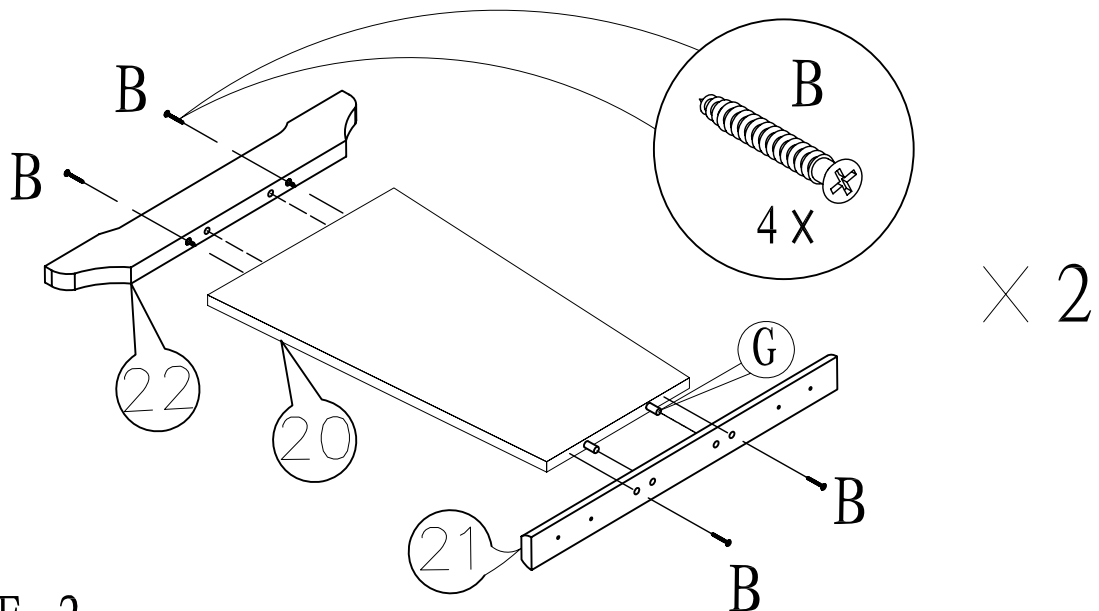

FIGURE 2
- 2.1 ATTACH LEG BASE #22 TO LEG #20 THROUGH FITTING DOWELS LOCATED ON LOWER END OF LEG #20 INTO HOLES LOCATED ON UPPER EDGE OF BASE #22 AS GUIDE, SECURE CONNECTION WITH (02) SCREWS(B) DRIVEN WITH PHILLIPS HEAD SCREW DRIVER (NOT ATTACHED). AS SHOWN IN FIGURE 2. REPEAT PROCEDURE FOR SECOND LEG #20.
- 2.2 ATTACH TABLE TOP SUPPORT #21 TO LEG #20 FITTING THE DOWELS LOCATED ON UPPER END OF LEG #20 INTO HOLES LOCATED ON SUPPORT #21. USING PRE-DRILLED HOLES AS GUIDE, SECURE CONNECTION WITH (02) SCREWS(B) DRIVEN WITH PHILLIPS HEAD SCREW DRIVER (NOT ATTACHED), AS SHOWN IN FIGURE 2. REPEAT PROCEDURE FOR SECOND TOP SUPPORT #21.